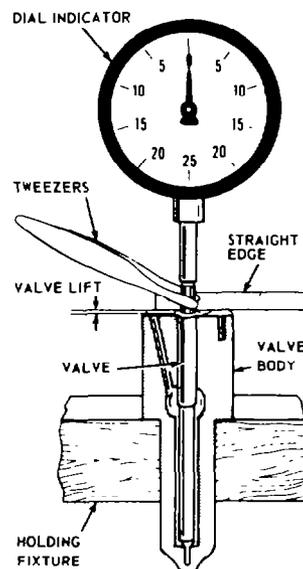

Fig. 128 — Method of Checking Nozzle Valve Lift
- h. Inspect the nozzle sealing face. If scratched, lap on a lapping plate using polishing tallow 66—0660(B) until the surface is smooth (mirror finish) and flat.
- j. Check the nozzle valve lift using a straight edge and a dial indicator. Place the nozzle body in a soft jaw vice, install and zero the dial indicator on the end of the nozzle valve and position the straight edge across the nozzle body. Using a pair of tweezers raise the valve until it contacts the straightedge. Check the amount of lift shown on the dial indicator, this should be 0.355 mm (0.014 in.). See fig. 128. Replace if it varies.